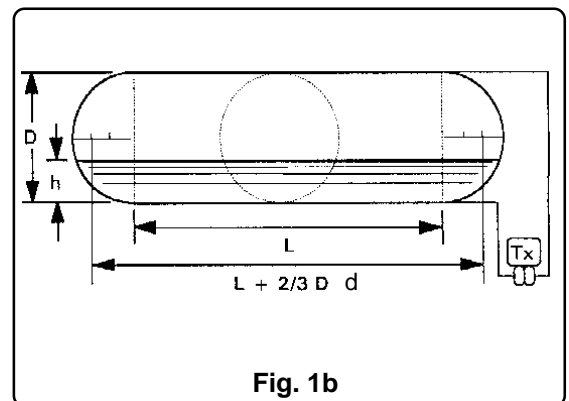

Fig. 1b
b) Cylindrical vessel with hemispherical ends (see Fig. 1b). Transmitter measuring the whole vessel height.